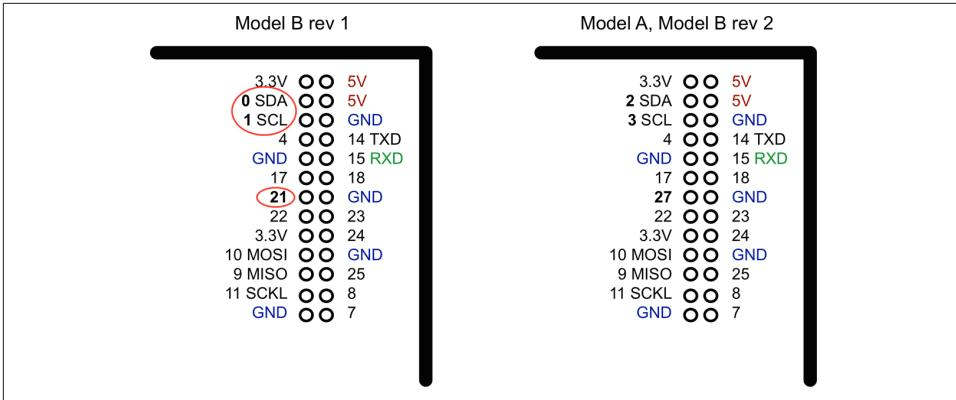

Figure 9-1. The GPIO pinout (26-pin models)
**Figure 9-1** shows the GPIO pinout for revisions 1 and 2 of the original Raspberry Pi Model B. The quick way to distinguish the boards is knowing that if you have one of the very first revision 1 boards, it has a black audio socket. The revision 2 boards have a blue audio socket.
There were three changes to the GPIO connector between revision 1 and revision 2. These are highlighted in Figure 9-1. First, the I2C port was swapped. The two pins SDA and SCL are still SDA and SCL but use a different internal I2C interface. This means that if you're using the pins as GPIO rather than I2C, then you will refer to them as 2 and 3 on a revision 2 board. Also, GPIO 21 was replaced by GPIO 27 on revision 2.